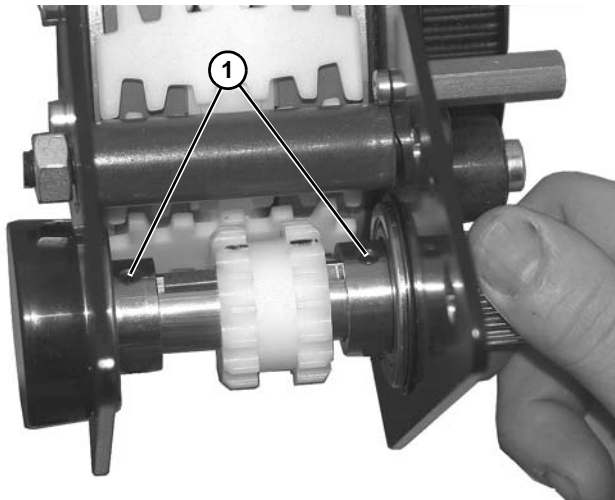

Figure 173
2. Secure drive shaft onto bearings with two set screws (**Figure 173, item 1**).